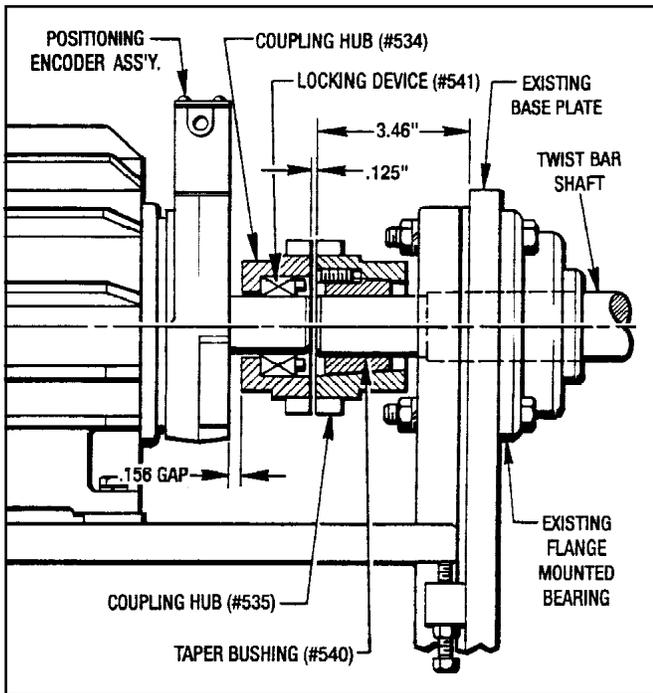

Figure 7.5 - Coupling Installation
1. First the Coupling Hub (#534) and Locking Device (#541) has to be installed on the *Posidyne* output shaft. If the Coupling Hub (#535) and Taper Bushing (#540) was also removed from the Twist Bar Shaft at disassembly, they will also have to be reinstalled. (See Figure 7.5)
3. Attach the *Posidyne* Unit with (4) Screws (#468) and (4) Lockwashers (#483).
4. Check Coupling Alignment and Position as specified in **Section 2-1 Installation of Drive Base** and as shown in Figure 7.5.
5. Attach the Coupling Guard (#516) with (4) Screws (#471) and (4) Lockwashers (#485).